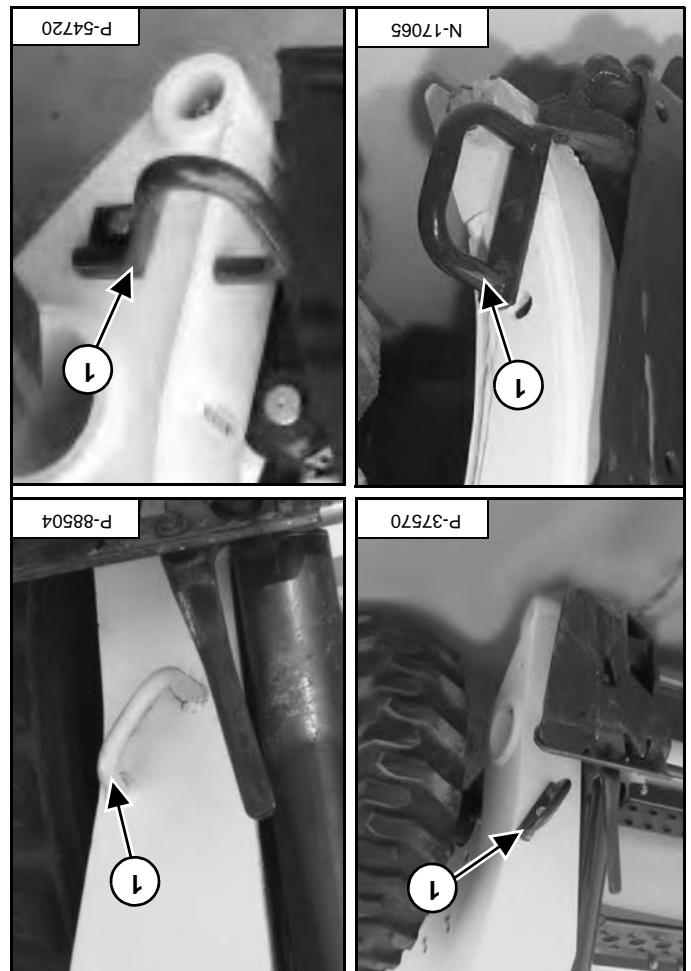

Figure 35
Route hoses through hose guide (item 1) [Figure 35] and connect quick couplers to the loader. (See Hydraulic Quick Couplers on Page 42.)